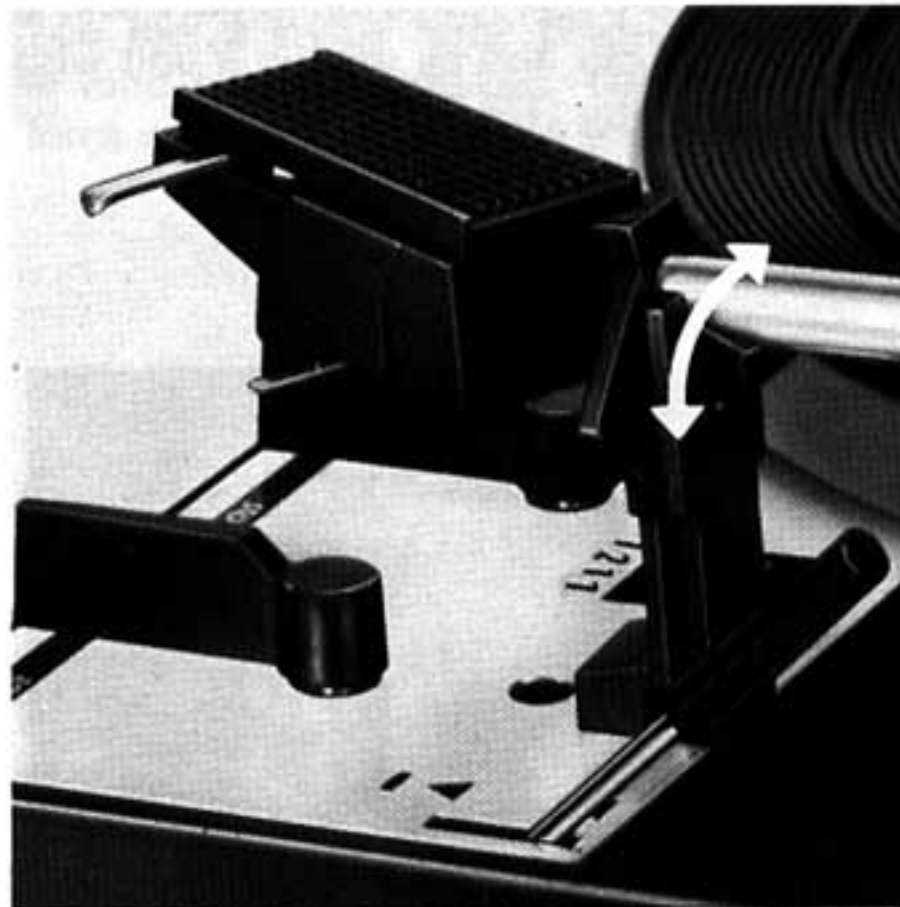

Fig. 7
Select the appropriate turntable speed ②, set the record size selector ⑬ to 7", 10" or 12" resp. (12, 25 or 30 cm), depending on the size of the record you want to play, and unlock the tonearm (Fig. 7).
Note: At the end of a record, or at the end of the last record of a stack, return of the tonearm and switch-off are automatic. It is advisable to lock the tonearm in place (Fig. 7) after turning off the system.